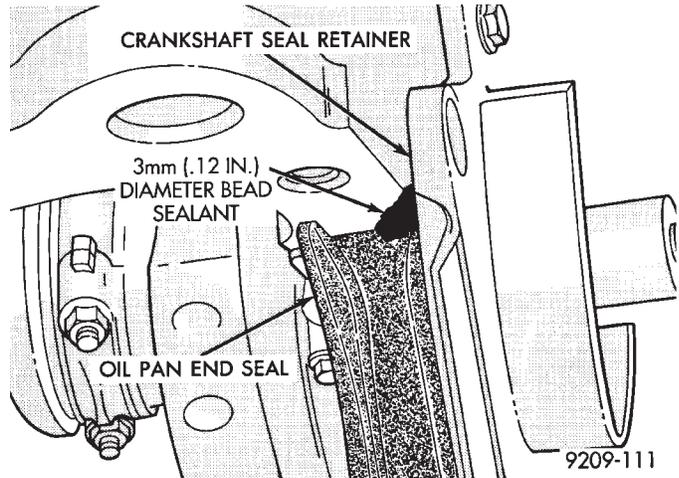

Fig. 3 Sealing, Front and Rear End Seals
- (1) Apply Mopar Silicone Rubber Adhesive Sealant or equivalent at the front seal retainer parting line (Fig. 3).
- (2) Install the oil pan side gaskets to the block. Use heavy grease or Mopar Silicone Rubber Adhesive Sealant or equivalent to hold in place.
- (3) Apply Mopar Silicone Rubber Adhesive Sealant or equivalent to ends of new oil pan end seals at junction or cylinder block pan rail gasket (Fig. 3).
- (4) Install pan and tighten screws to (12) M8 to 23 N·m (200 in. lbs.) and 1 M6 to 12 N·m (105 in. lbs.).